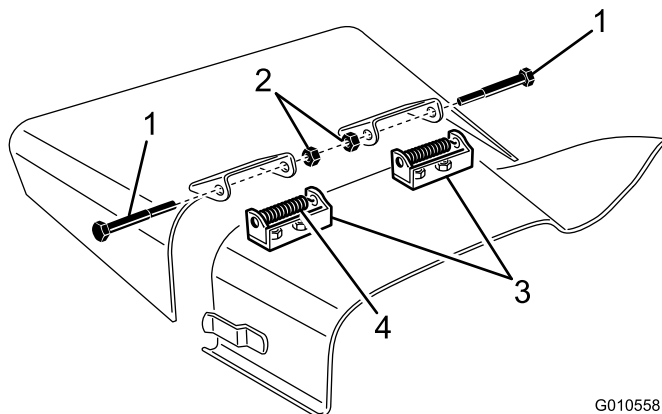

Figure 29
- Remove the 2 capscrews, locknuts, and springs that secure the deflector mounts to the pivot brackets (Figure 29).
- To remove the pivot brackets, remove the carriage bolts and nuts (Figure 29).